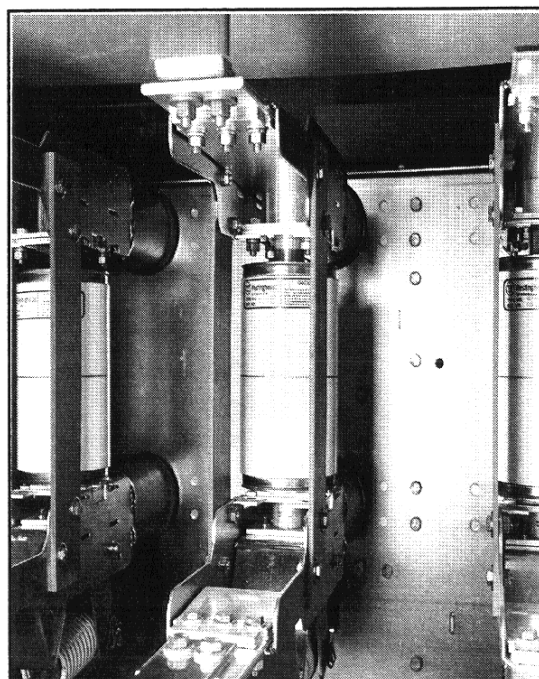

Fig. 30 Rear view of VCP-W breaker/WVB bus connection
1. Remove the three (3) bolts on both the line and load side of each phase connection between VCP-W breaker and bus bar in rear of assembly. Total of eighteen (18) bolts. (See Fig. 30)